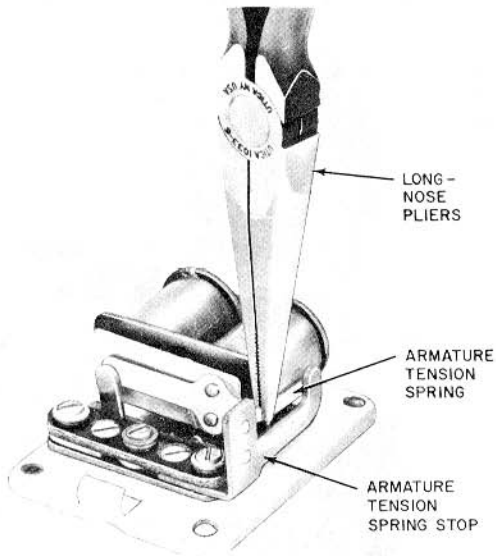

Fig. 17—Adjusting Armature Tension Spring
- (a) To increase tension, place long-nose pliers on armature tension spring as shown in Fig. 17 and adjust spring in direction away from coils. This will raise sound pitch of buzzer.
(d) After adjusting, see that armature tension spring rests against armature tension spring stop when armature is in unoperated position (Fig. 17).